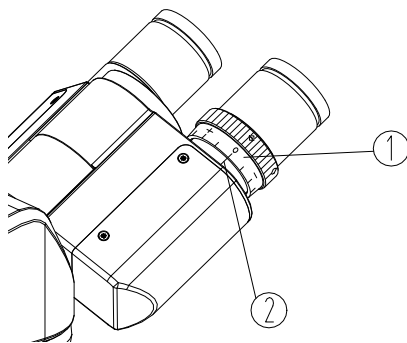

Fig.11
Observe the right eyepiece with the right eye, focus it until the image is clear. Then observe the left eyepiece with the left eye, if the image is not clear enough, rotate the diopter adjustment ring ① until the image is clear (See Fig.11).